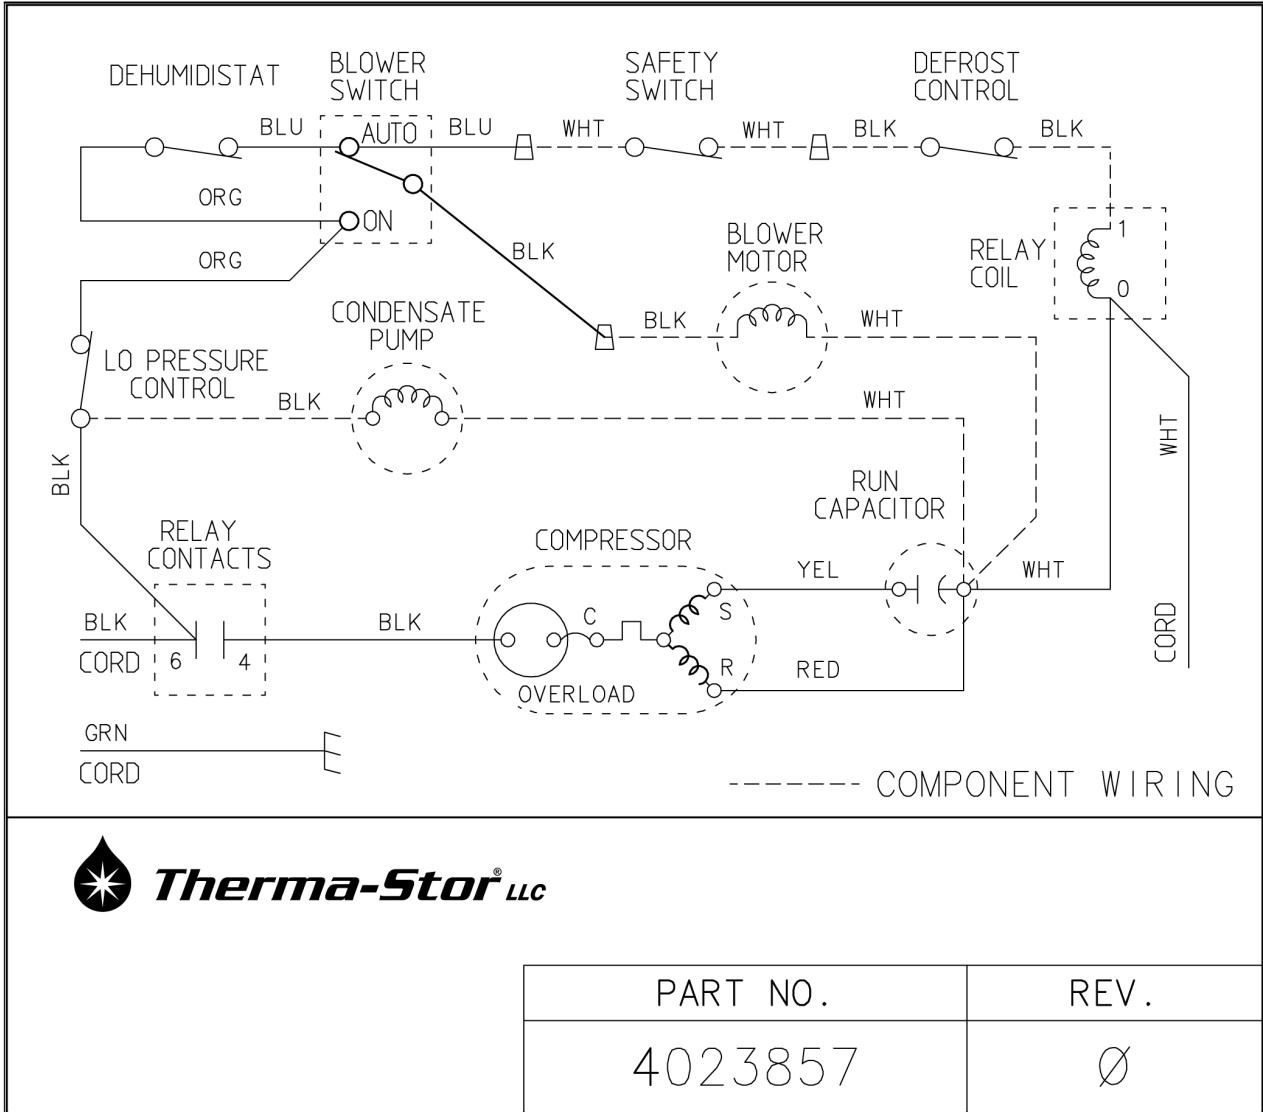

Figure 2: Electrical Schematic of the Santa Fe Rx Dehumidifier
3. Loose connection in internal wiring (Fig. 2).
2. Loose connection in compressor circuit (see Fig. 2).
1. Loose connection in blower circuit (see Fig. 2).
This compressor run capacitor is accessed by following steps 1 through 4 in section 5.5 on blower replacement; the compressor is accessed by following steps 1 through 5. This compressor is equipped with a two terminal external overload, run capacitor, but no start capacitor or relay (see Fig. 2).